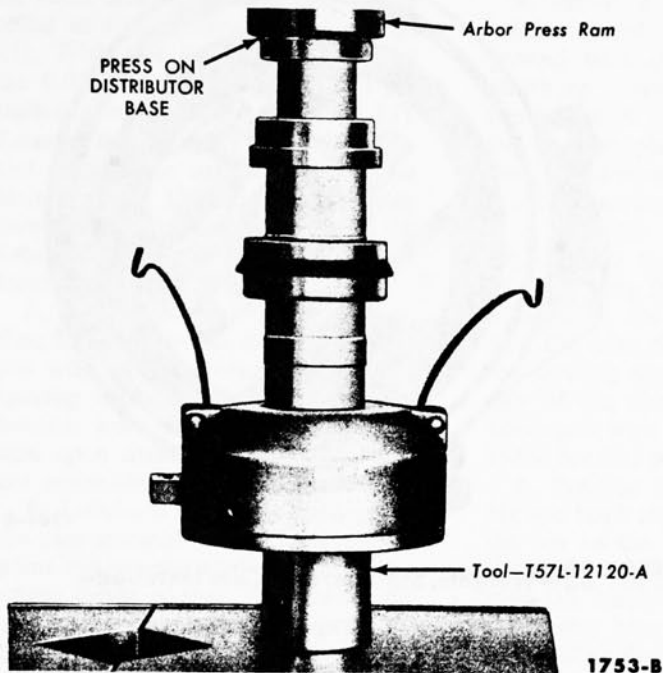

FIG. 29—Bushing Installation
1. Oil the new bushing, and install it on the bushing replacer tool, then install the bushing (Fig. 29). When the tool bottoms against the distributor base, the bushing will be installed